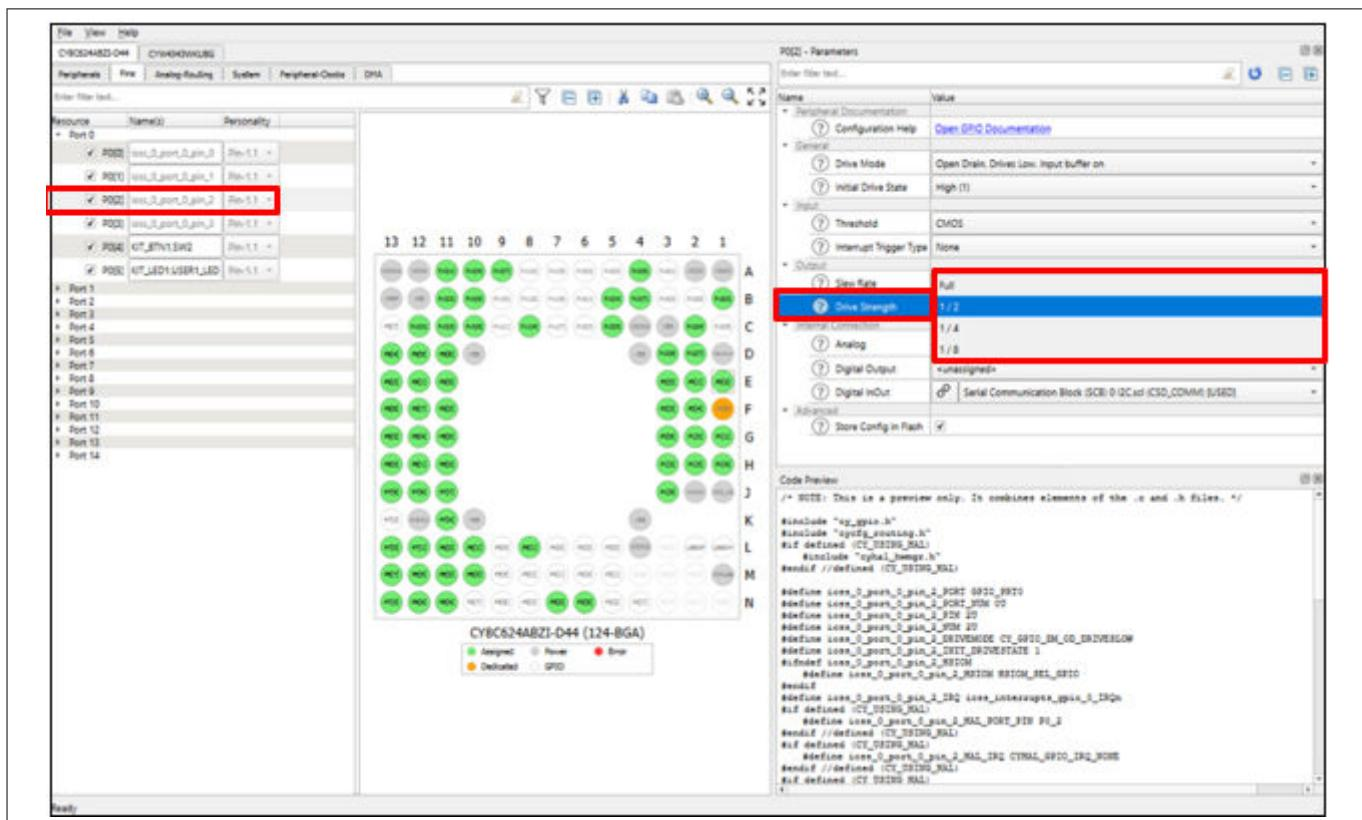

Figure 292 Selecting drive strength for GPIOs
- Reduce the drive strength of the switching GPIOs. Table 54 lists the available drive strength options for the GPIOs. Figure 292 shows an example on how to select the drive strength of the GPIOs using the Device configurator in the ModusToolbox™ project